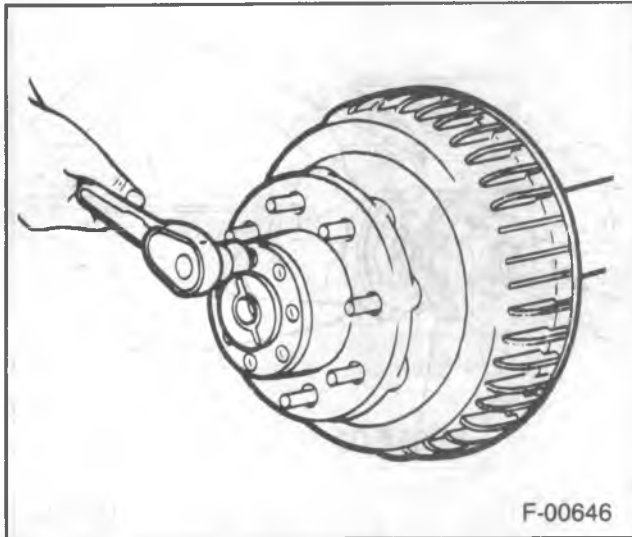

Figure 23 — Removing or Installing Flange-to-Hub Bolts
Remove or Disconnect (Figures 23 and 24)
1. Bolts (55) (figure 23).
- Rap the axle shaft (53) flange lightly with a soft-faced hammer to loosen the shaft.
- Grip the rib on the axle shaft (53) flange with a locking plier and twist to start shaft removal.
2. Axle shaft (53) from the tube.
Install or Connect (Figures 23 and 24)
1. Axle shaft (53) with gasket (51) (if used) or RTV applied.
2. Bolts (55) (figures 23 and 24).